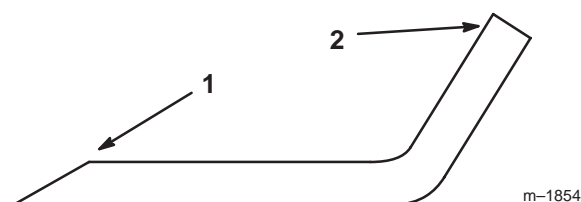
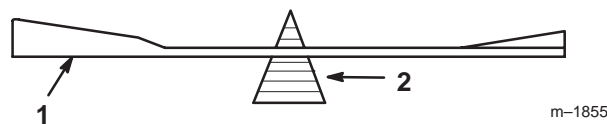

Figure 28
Figure 29
1. Use a file to sharpen the cutting edge at both ends of the blade (Fig. 28). Maintain the original angle. The blade retains its balance if the same amount of material is removed from both cutting edges.
2. Check the balance of the blade by putting it on a blade balancer (Fig. 29). If the blade stays in a horizontal position, the blade is balanced and can be used. If the blade is not balanced, file some metal off the end of the sail area only (Fig. 28). Repeat this procedure until the blade is balanced.